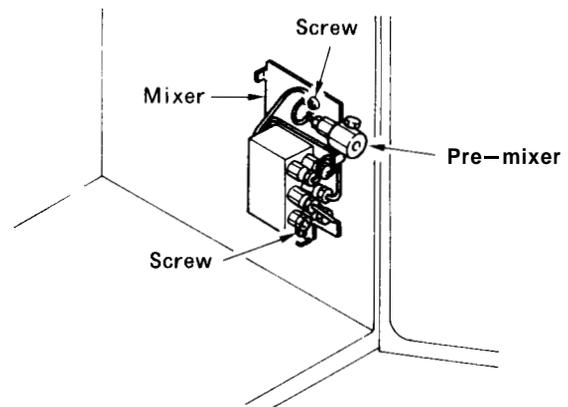

Fig. 4.24
- (1) Mount the mixer on the inner wall of the CTO-IOA, using the accessory screws as shown in Fig. 4.24. The mixer is **usually** mounted at the position indicated in (A). Note, however, that when mounting the 7725 manual injector with position sensor on the CTO-10A, the mixer should **be** mounted at the position shown in (B).